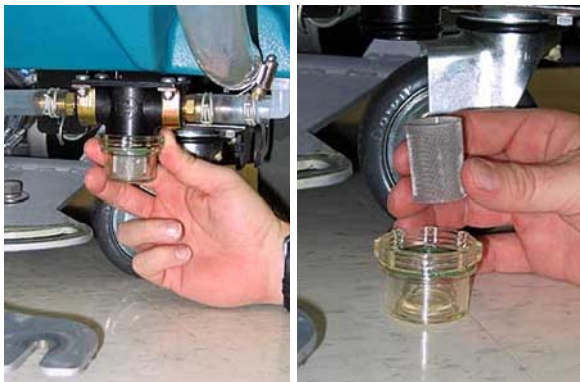

FIG. 71
1. Remove the solution tank filter from underneath the machine and rinse out the screen (Figure 71). Make sure the solution tank is empty before removing filter.